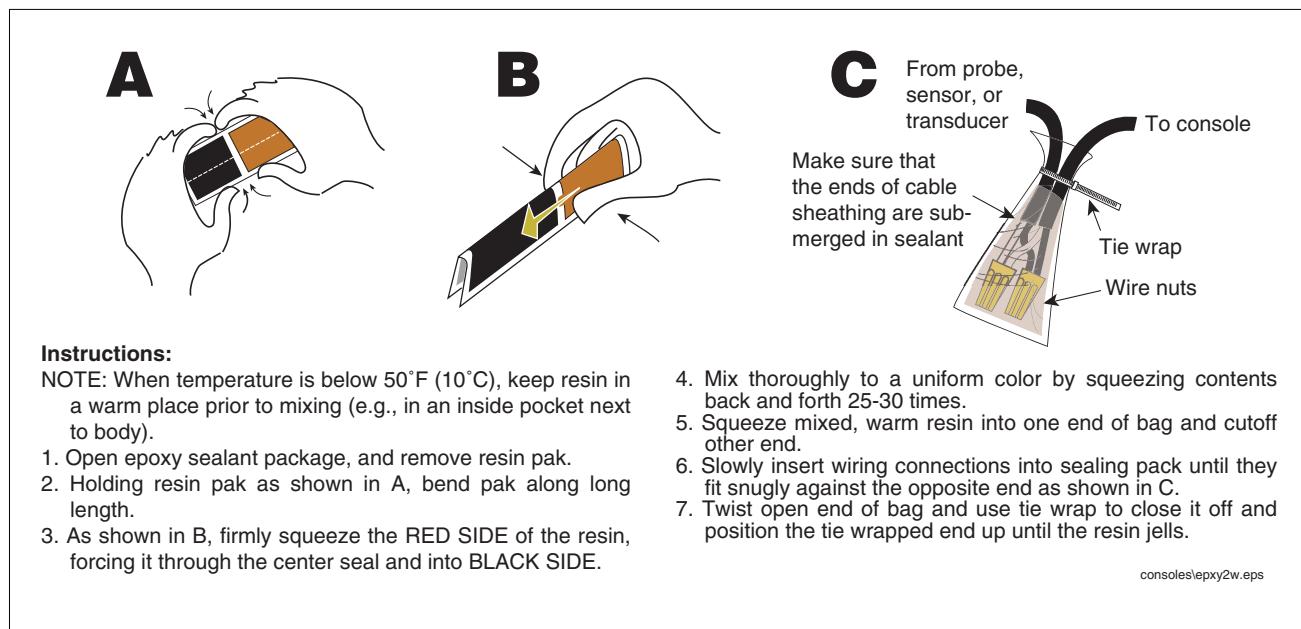

Figure 8. Epoxy sealing wiring connections
5. Seal wire nuts with epoxy sealant following the instructions in Figure 8. Note: the illustration shows only two cables in the pak, but in this case, all three cables must be submerged as per the illustration.